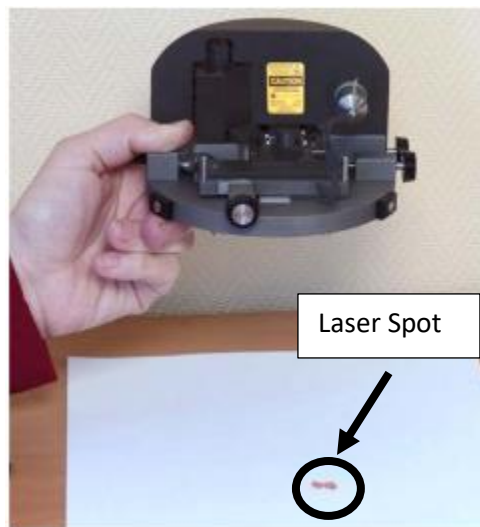

Figure 8: How to hold the AFM while aligning the probe and laser
- Hold the AFM head as shown in Figure 8, if there isn't a piece of paper to use the black docking station for the AFM head works as well.